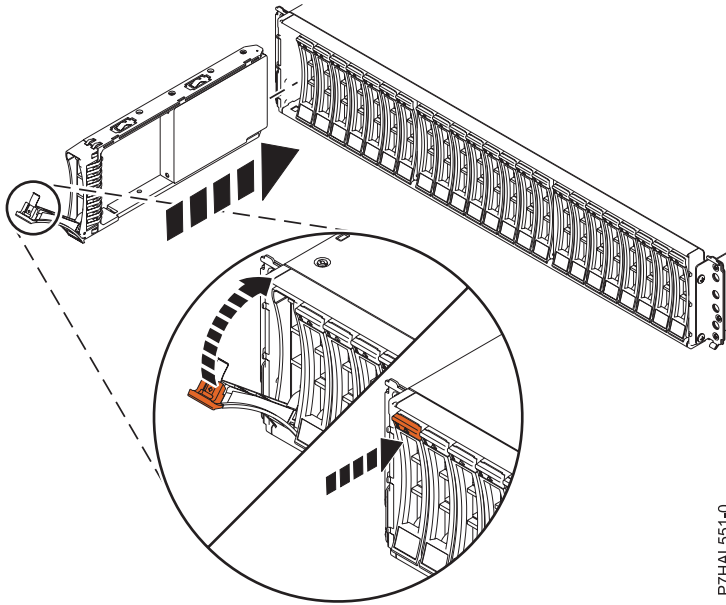

Figure 16. Installing the disk drive in the 5887 disk drive enclosure
1. With the handle in the unlocked position, as shown in Figure 16 on page 26, support the bottom of the drive as you align it with the guide rails in the expansion unit.